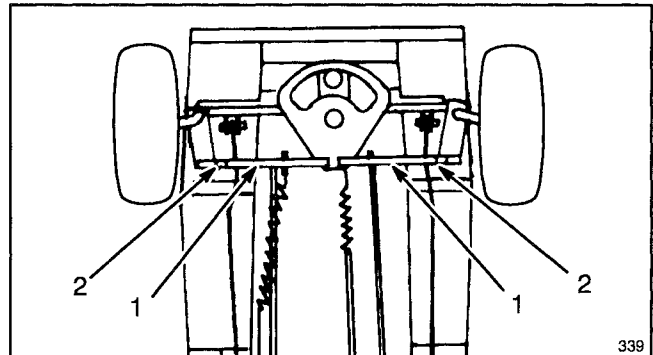

**Figure 26**
**IMPORTANT:** The idler pulley retainer must be installed at an 80° to 90° angle to the idler mounting bracket (Fig. 26). Otherwise, the rider may move slightly when the clutch is pushed down.